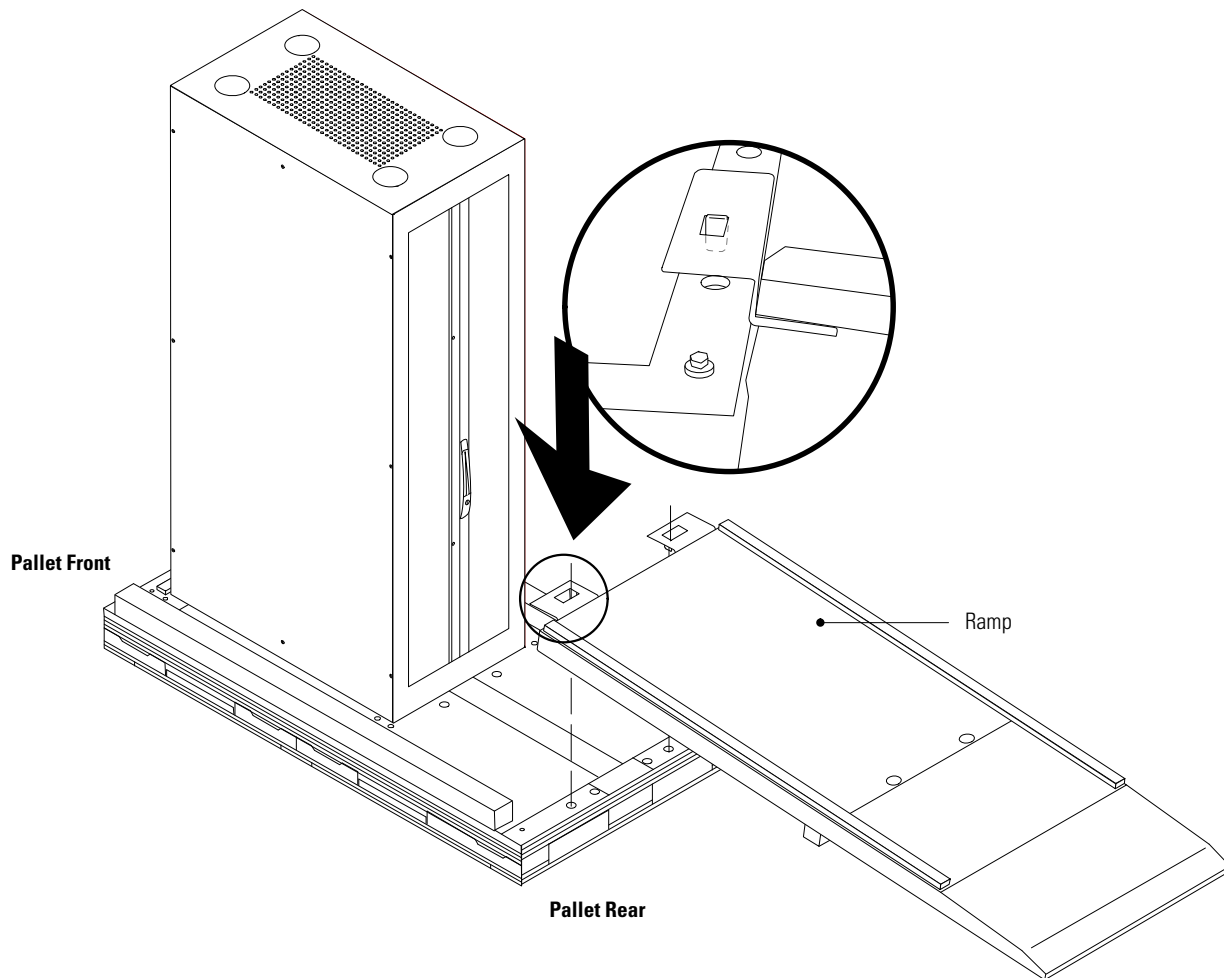

Figure 5. Attaching the Ramp to the Pallet
6. Lift the ramp off the pallet and attach it to the pallet by inserting the ramp bracket pins in the pre-drilled holes at the rear of the pallet (see Figure 5).